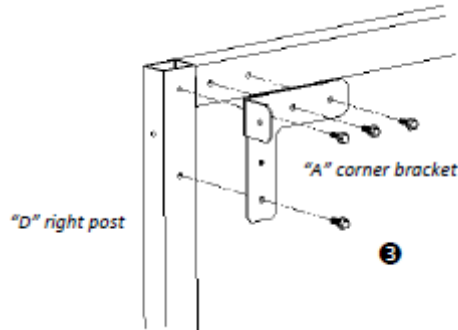

Figure 2a: Front Screen Assembly – Corner Bracket
The perpendicular wing should point up. See Figure 2A.
3. Align holes of remaining "A" corner bracket with holes of top and left posts. *See Figure 2A.*